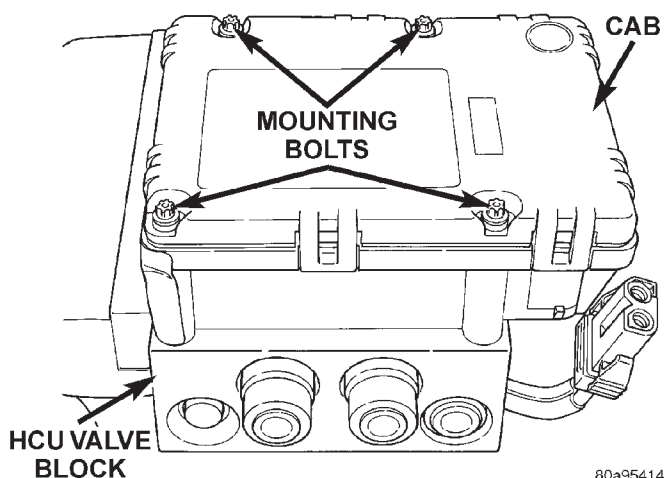

Fig. 15 CAB Attaching Bolts
(3) Remove the 4 bolts (Fig. 15) attaching the CAB to the HCU.
(2) Install the 4 bolts mounting the CAB (Fig. 15) to the HCU. Tighten the CAB mounting bolts to a torque of 2 N·m (17 in. lbs.).